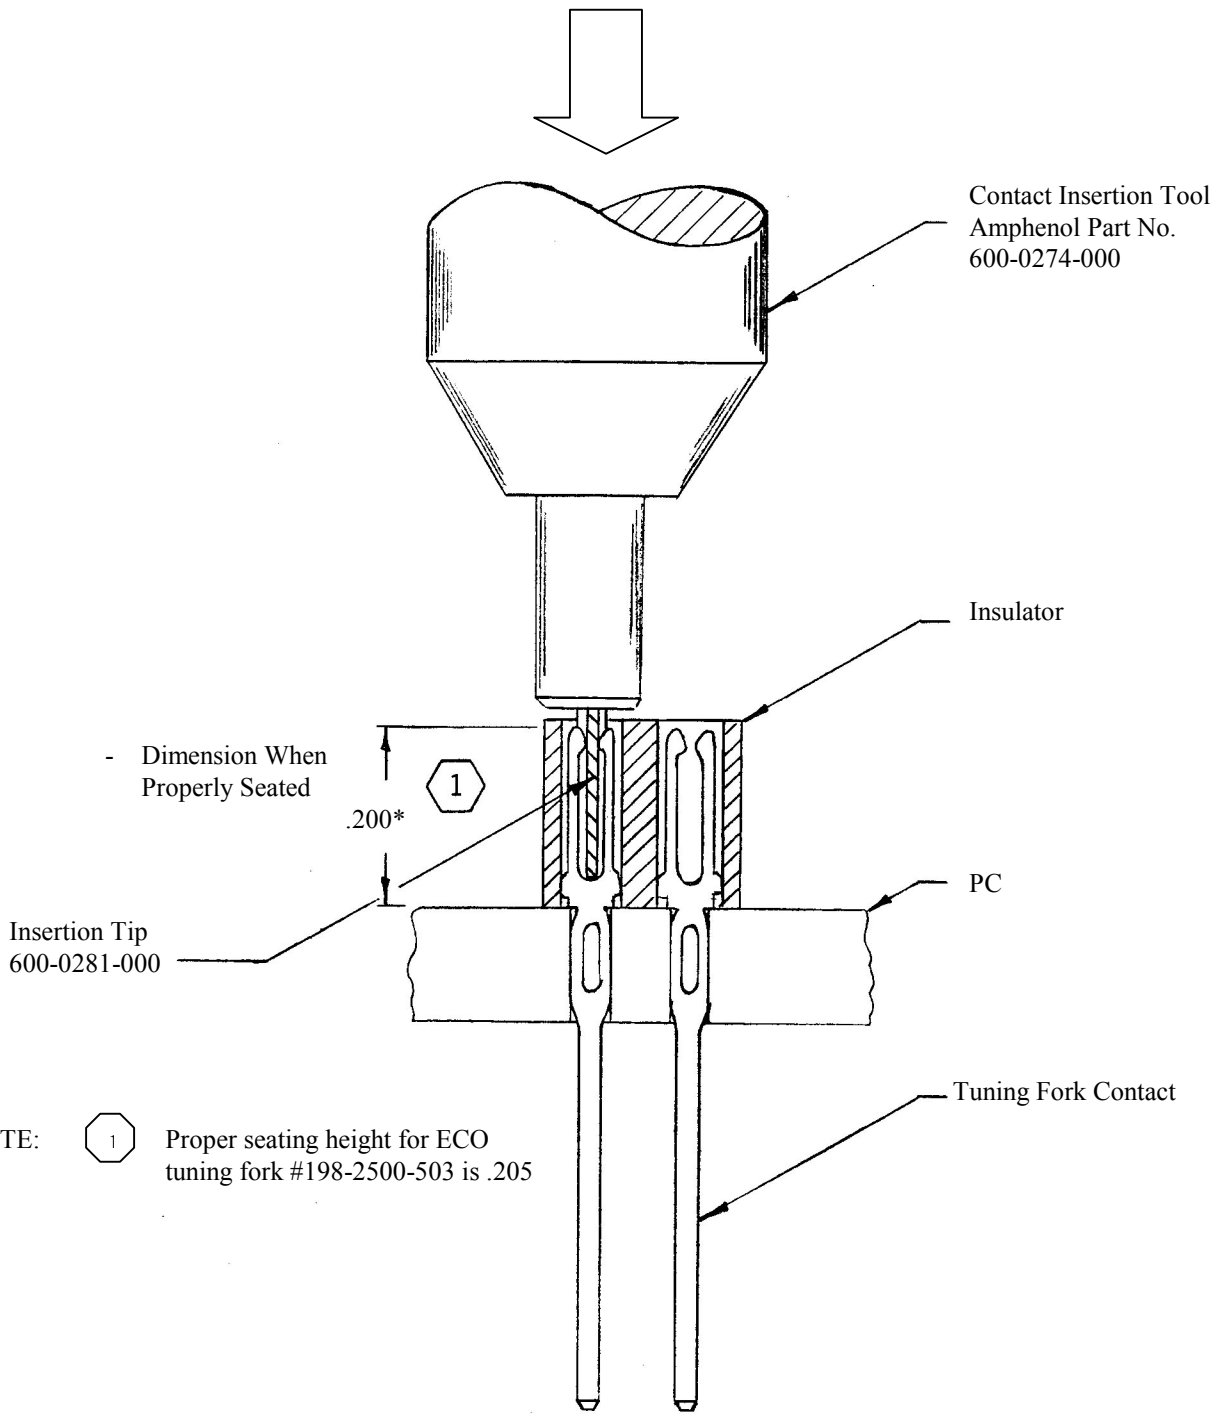

Figure 1
- 2.2.4 Insert the blade of insertion tool into the fork of the new contact (see Figure 1).
- 2.2.7 Inspect for proper seating and alignment of contact and probing (see Figure 1).